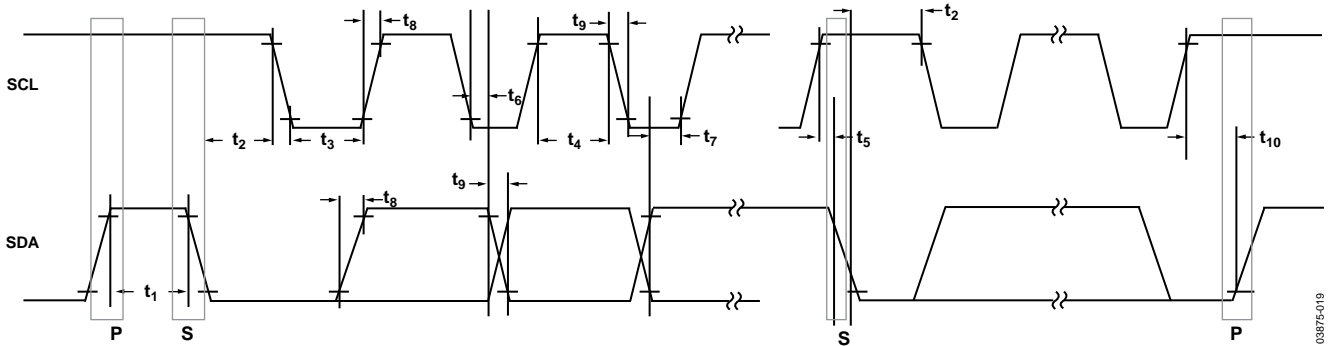
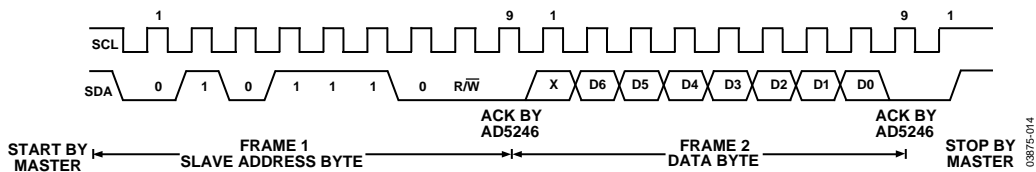
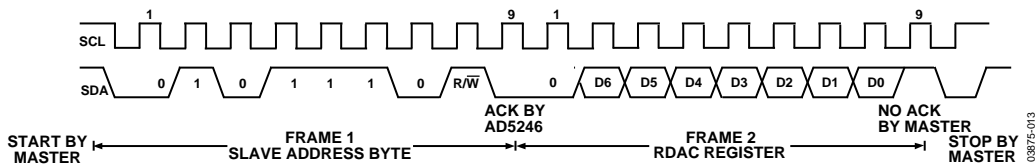

Figure 26. I²C Interface, Detailed Timing Diagram
Figure 27. Writing to the RDAC Register
Figure 28. Reading from the RDAC Register
³ See timing diagrams (Figure 26, Figure 27, and Figure 28) for locations of measured values.
1. The master initiates data transfer by establishing a START condition, which is when a high-to-low transition on the SDA line occurs while SCL is high (see Figure 27). The following byte is the slave address byte, which consists of the 7-bit slave address followed by an $\overline{R/W}$ bit (this bit determines whether data will be read from or written to the slave device).
3. In read mode, after acknowledgement of the slave address byte, data is received over the serial bus in sequences of nine clock pulses (a slight difference from the write mode where eight data bits are followed by an acknowledge bit). Similarly, the transitions on the SDA line must occur during the low period of SCL and remain stable during the high period of SCL (see Figure 28).
4. When all data bits have been read or written, a STOP condition is established by the master. A STOP condition is defined as a low-to-high transition on the SDA line while SCL is high. In write mode, the master pulls the SDA line high during the tenth clock pulse to establish a STOP condition (see Figure 27). In read mode, the master issues a No Acknowledge for the ninth clock pulse (that is, the SDA line remains high). The master then brings the SDA line low before the tenth clock pulse, which goes high to establish a STOP condition (see Figure 28).